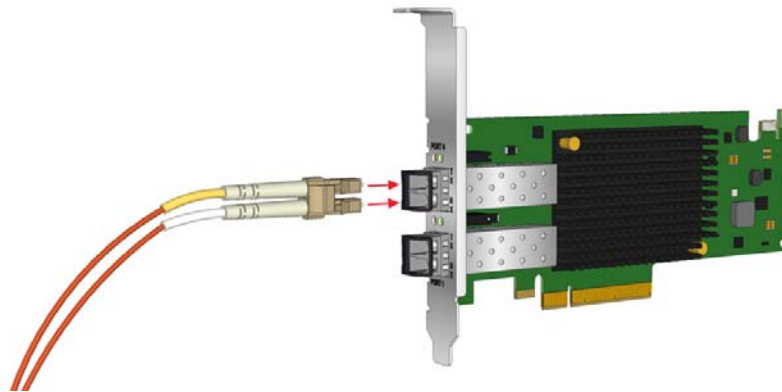

Figure 3-4 Connecting a Fiber Optic Cable for the OCe14000-series -NM/-UM Adapters
2. After the optical transceivers are installed, insert the optical cable into the LC connectors on the adapter as shown in Figure 3-4 on page 21.